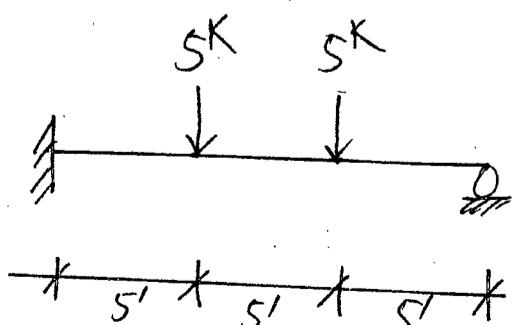

Figure 12
14. For the beam loaded as shown in Figure 12, determine the reactions and plot the shear force and bending moment diagrams. (14)